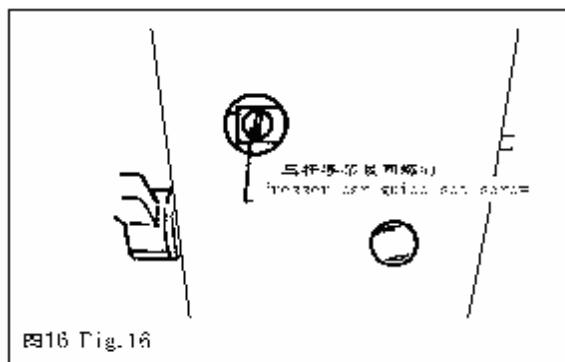

图16 Fig. 16
## 十三、压脚高度的调节(图16)
1. 拆下面板上的孔塞(图16).
#### 13、Adjustment of the height of the presser bar: (Fig. 16)
1. Take off the rubber plug in the hole from the face plate, as shown in Fig. 16.